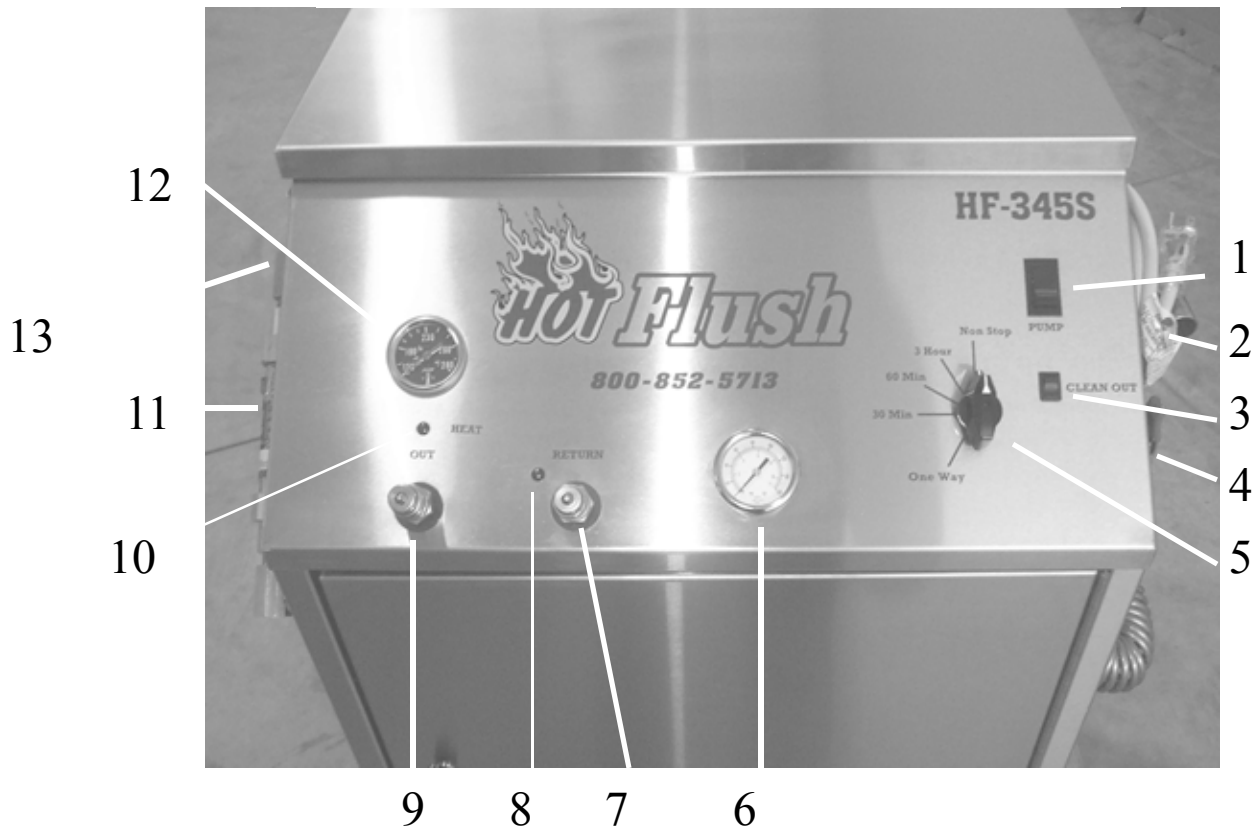
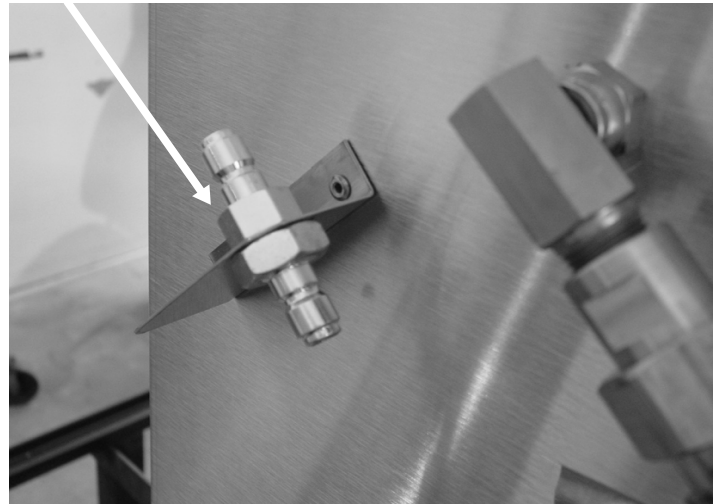

FIGURE 1
FIGURE 5
11. MAKE SURE MAIN POWER SWITCH (#1) (SEE FIGURE 1) IS IN THE OFF POSITION
16. **OPTIONAL:** TO PRE-HEAT THE OIL CONNECT THE ENDS OF THE TWO 8' HOSES TO THE PRE-HEAT ATTACHMENT. (SEE FIGURE 5) TURN THE PUMP SWITCH ON AND RUN THE MACHINE TILL IT REACHES DESIRED TEMPERATURE. TURN PUMP SWITCH OFF. PRESS & HOLD CLEAN OUT SWITCH (#3) (FIGURE 1) FOR 5 TO 10 SECONDS. DISCONNECT HOSE FROM THE PRE HEAT ATTACHMENT AND CONTINUE.
18. SELECT 30 MINUTE TIMER OPERATION (SWITCH #5) (SEE FIGURE 1)
19. TURN PUMP ON & MAKE NOTE OF FLOW RATE ON THE FLOWMETER (#11) (SEE FIGURE 1) SO YOU CAN MONITOR PROGRESS OF FLOW RATE, **STOP FLUSHING AFTER 15 MINUTES BECAUSE SCREEN MAY FILL UP QUICKLY!**
22. **NOTE: IF PUMP DOES SHUT OFF BECAUSE OF EXCESSIVE DEBRIS,** TURN OFF MAIN POWER SWITCH (#1), "TAP" THE CLEAN OUT BUTTON (#3) (FIGURE 1) 6 TIMES TO PURGE OIL FROM FILTER HOUSING. **DO NOT HOLD DOWN , CONTINUE WITH STEP #24**
23. PRESS & HOLD CLEAN OUT SWITCH (#3) (FIGURE 1) FOR ABOUT 5 TO 10 SECONDS